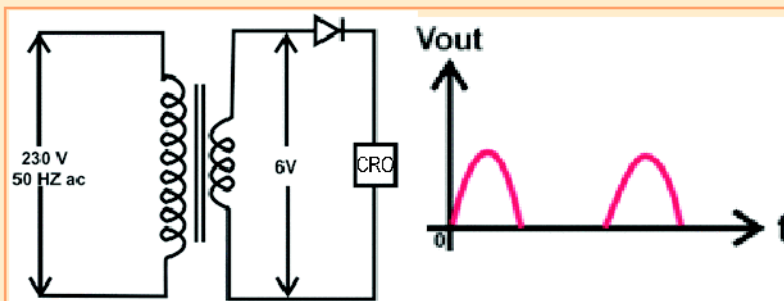

Fig7.3
- Connect a diode and a resistor as shown in Fig7.3 in series with the above circuit and observe its output waveform. What difference do you observe? What does the diode do?